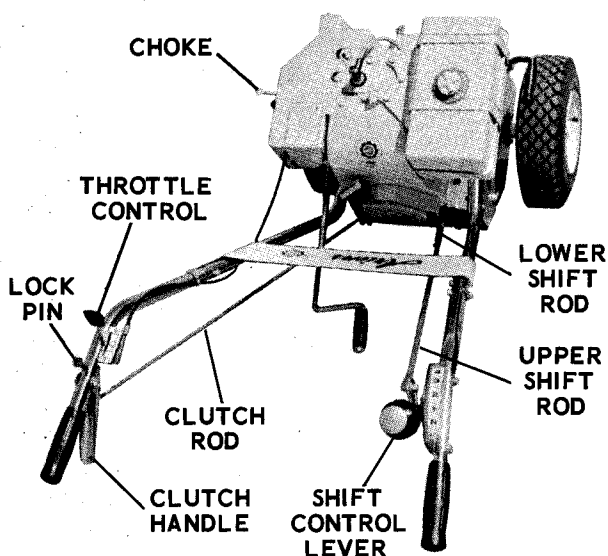

Figure 1
c. Place the upper handle bar in place between the curved portions of the lower handle bars (figure 1).
Position the shift control (figure 1) on the inside of the handle bars on the right hand side so that the holes in the control line up with the holes in the handle bar. Fasten the control to the handle bar with two hex head capscrews and lockwashers (figure 1).
a. Pull up as far as possible on the lower shift rod which projects from the rear of the engine mounting frame (figure 1). Screw the threaded portion of the upper shift rod over the lower shift rod.
b. Slide the straight end of the clutch rod through the ball joint mounted on the clutch arm (figure 1) and place the bent end of the rod through the hole in the clutch operating handle (figure 1) and fasten with ratchet plate.
a. Using the two self-tapping screws provided, fasten the throttle control lever (figure 1) to the inside of the left hand handle bar.